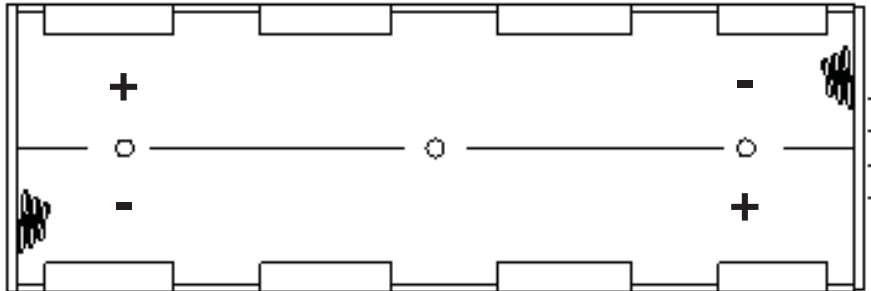

Figure No. 4
- Step 4 Install 6 "C" size batteries in the holder, making certain they are positioned in accordance with the polarity markings located in the battery holder. Refer to Figure No. 4.